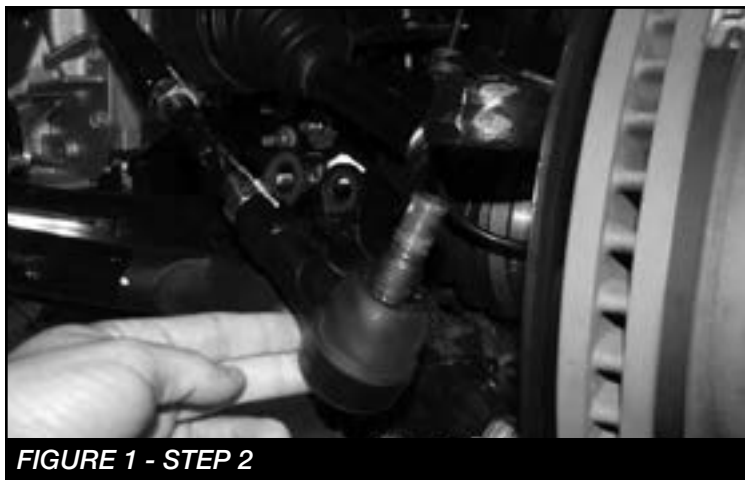

FIGURE 1 - STEP 2
2. Loosen the tie rod nut and carefully strike the knuckle with a hammer until it comes loose. Save hardware. **SEE FIGURE 1**